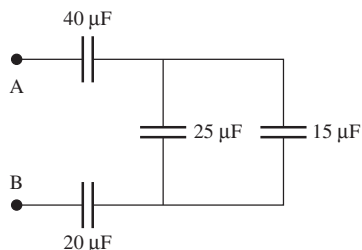

FIGURE P4.25 Capacitor network.
- 4.25 (B) Find the equivalent capacitance between points A and B in Figure P4.25.